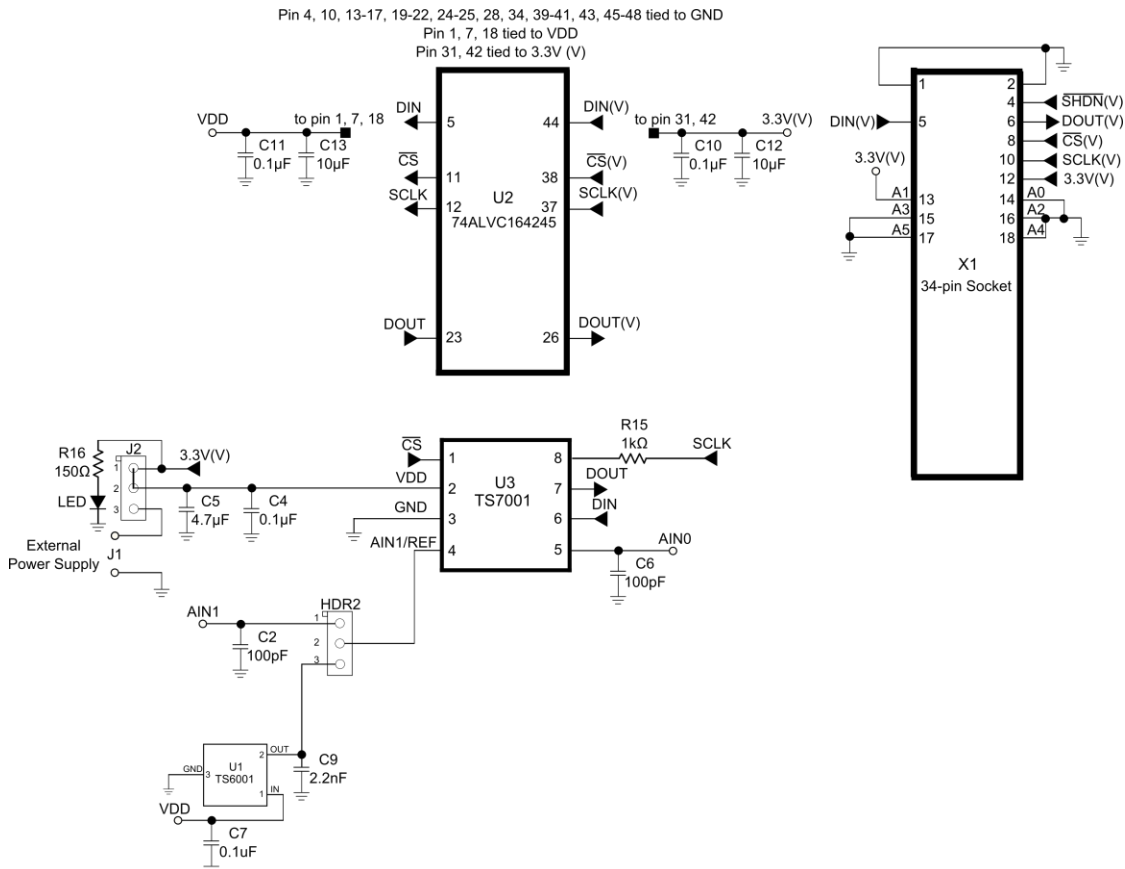

Figure 5. TS7001 Evaluation Board Circuit
Figure 5 shows the TS7001 demo board schematic, Figure 2 and Figure 3 show a picture of the top and bottom of the TS7001 demo board, respectively. Figure 1 shows a picture of the TS7001 demo board with the viperboard connected.
In order to evaluate the TS7001, jumper J2 is to be set to position 2-3 and jumper HDR2 is to be left unconnected. The default configuration for J2 and HDR2 is 1-2 and unconnected, respectively. Refer to Figure 5 and Table 1. The default configuration on the board is for  $V_{DD} = +3.3V$ . For this evaluation, we will use an external +3.6V power supply and an external +3.6V reference voltage. The following steps are to be performed:
- 1) Set the voltage of the power supply between +2.7V and +3.6V and turn it off. Connect the positive terminal of the DC power supply to pin 12 labeled as "3.3V" on X1, and the ground terminal to pin 2 labeled as "GND". Refer to Figure 5.
- 3) To measure the supply current of the TS7001, place jumper J2 to position 2-3. Then, apply an external power supply to J1. An ammeter can now be connected in series with the power supply for a static supply current measurement of the TS7001. The supply current should be less than 900 $\mu$ A. Please refer to Figure 5 and table 1.